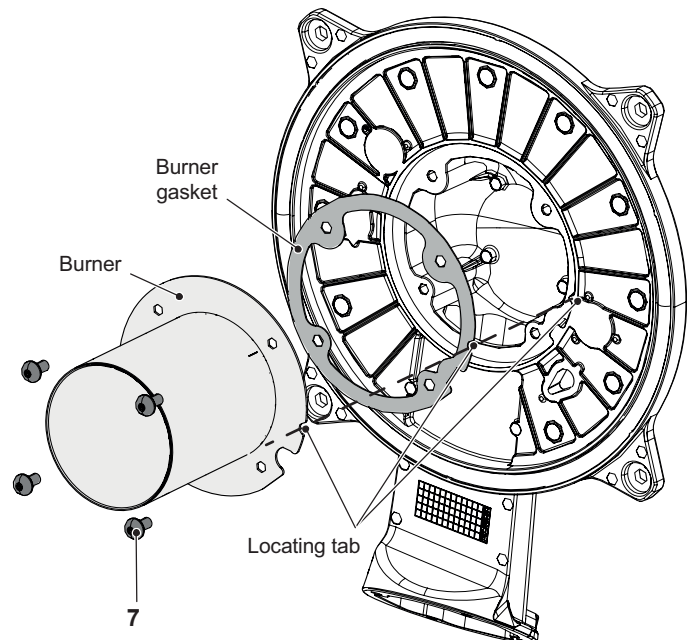

Figure 18.4
- 5 Unscrew the screws "7" (Figure 18.4) and remove the burner.
- 6 Assemble the burner carrying out the removal operation in reverse order. Ensure the burner is correctly located by lining up the locating tab (Figure 18.4).